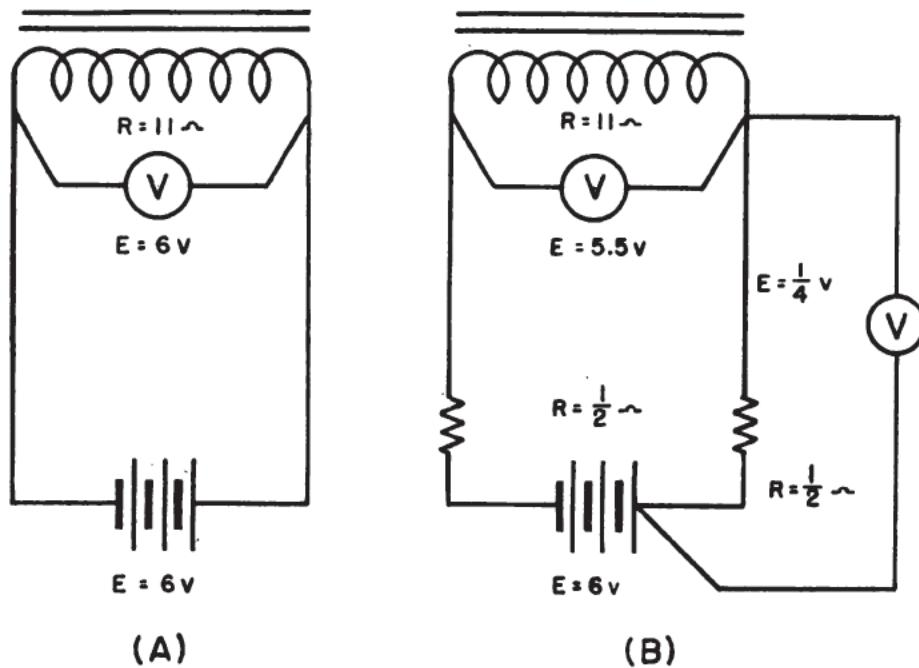

Figure 47.—Voltage drop.
If you assume that a simple circuit has no resistance in the connecting wires, you will have a diagram such as you see in (A) of figure 47.
But if you make the actual allowance for the resistance of the connecting wires, you will have a diagram such as you see in (B) of figure 47. Here, the two resistors represent the resistance of the connecting wires. What you actually have in (B) is a series circuit.
So, with the voltage and resistance values indicated in (B) of figure 47, an application of Ohm's Law will show that $\frac{1}{4}$ volt exists across each connecting wire. A low reading voltmeter connected at the proper points will show the same result. You have a voltage drop of $\frac{1}{4}$ volt.